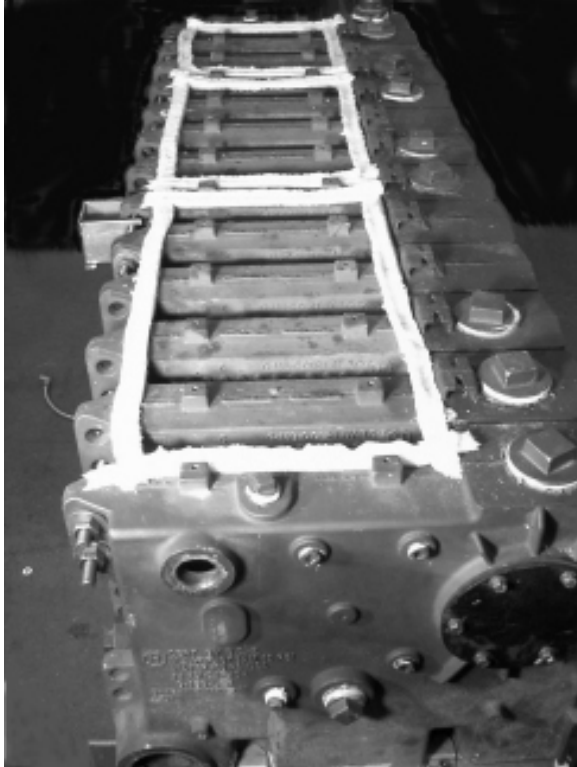

Figure 9: Draft Hood Gasket Installation
- 2) Use the 1" x 1/2" Cerablanket strips provided to seal the draft hoods to the block assembly. To do this, lay the strips along the top of the block in the locations that will be under the edges of the draft hood (see Figure 9). Overlap the Cerablanket strips at the corners.